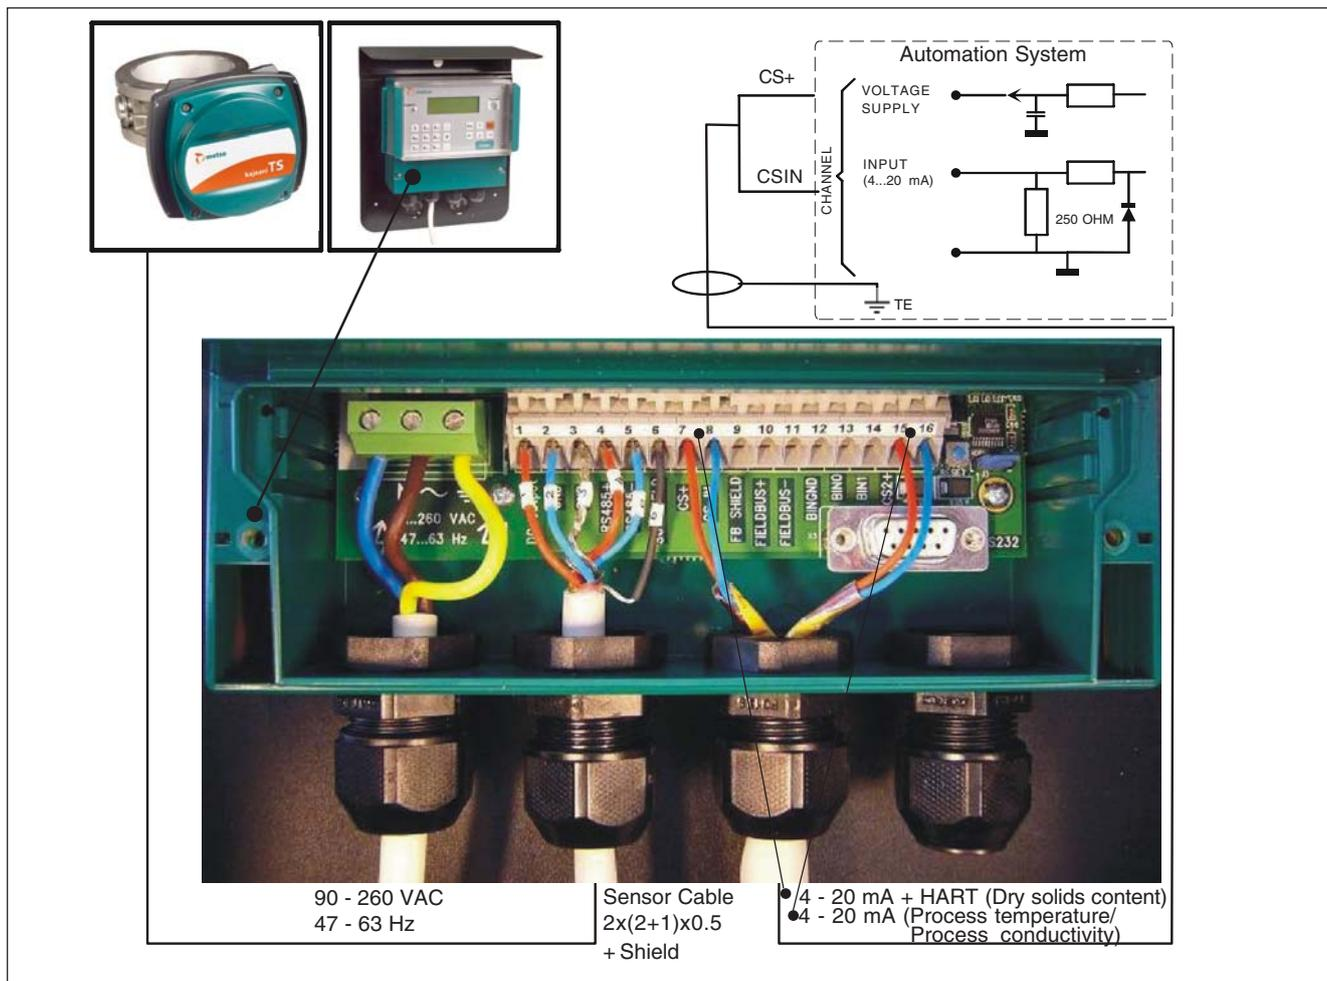

Figure 3.3. Electrical connections to the TCU.
1. Insert the end of the sensor cable that has no connector into the TCU connector casing through the inlet and connect it as shown in Figure 3.3. The protective shields are connected as follows:
Insert the power supply cable 90 - 260 VAC into the TCU connector casing through the inlet on the left edge and connect it to the terminal block as shown in Figure 3.3.
Insert the current signal cable into the TCU connector casing through the inlet and connect to the terminal block as shown in Figure 3.3.